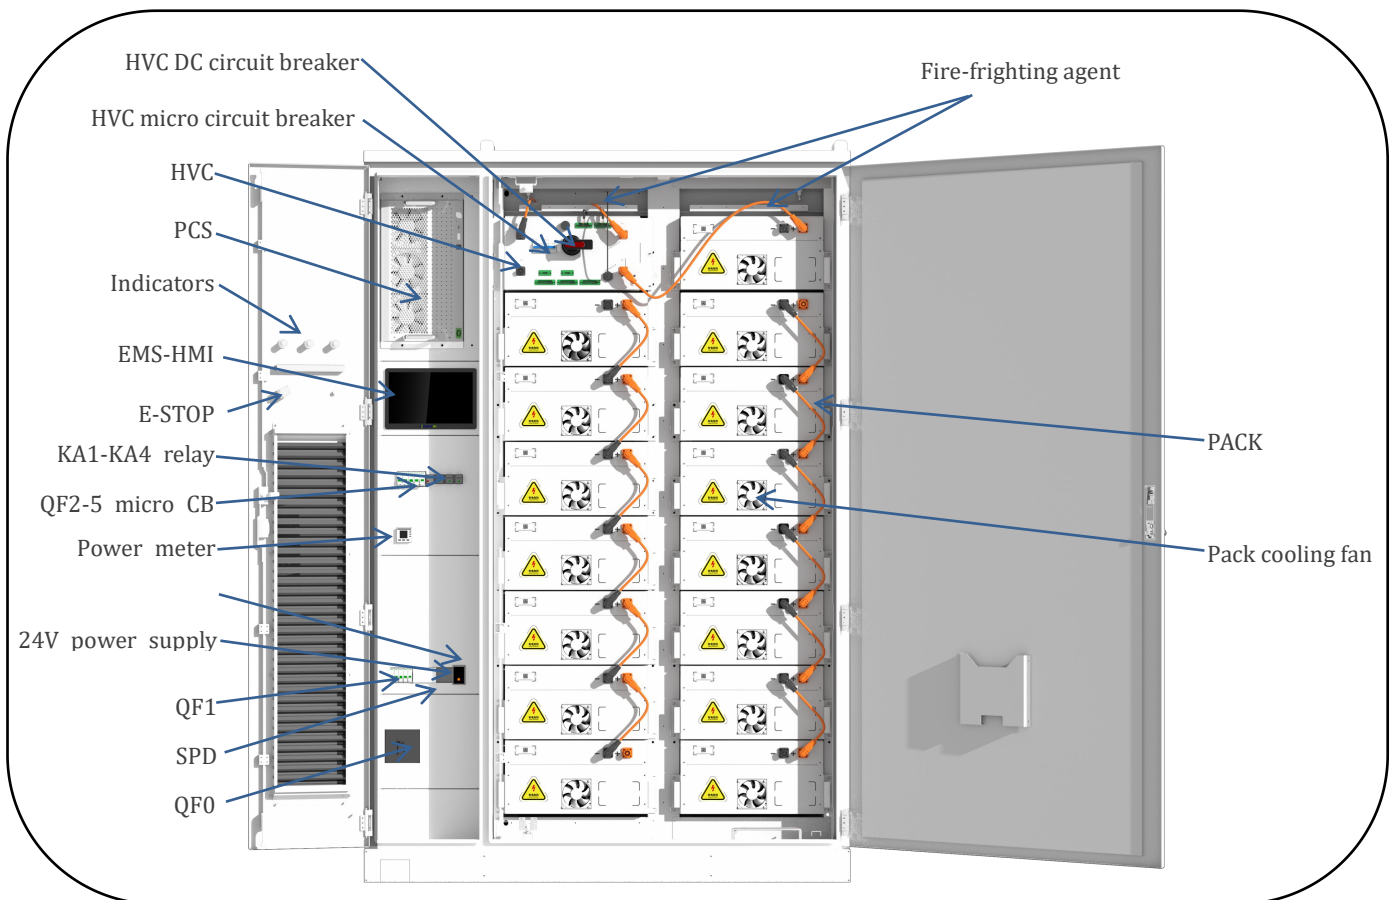

Figure 4-1 Distribution Switch Location Diagram
- 5) Component Inspection: Referencing Figure 4-1, all circuit breakers are in the open position; surge protector indicators are green.
- 2) Refer to Figure 4-1, close the QF0 DC molded case circuit breaker;
- 2) Refer to Figure 4-1, open QF1-QF5 microswitch.
- 2) Refer to Figure 4-1, break the QF1-QF5 switch of the system, break the DC switch of the high voltage box and the micro-break of the high pressure box.